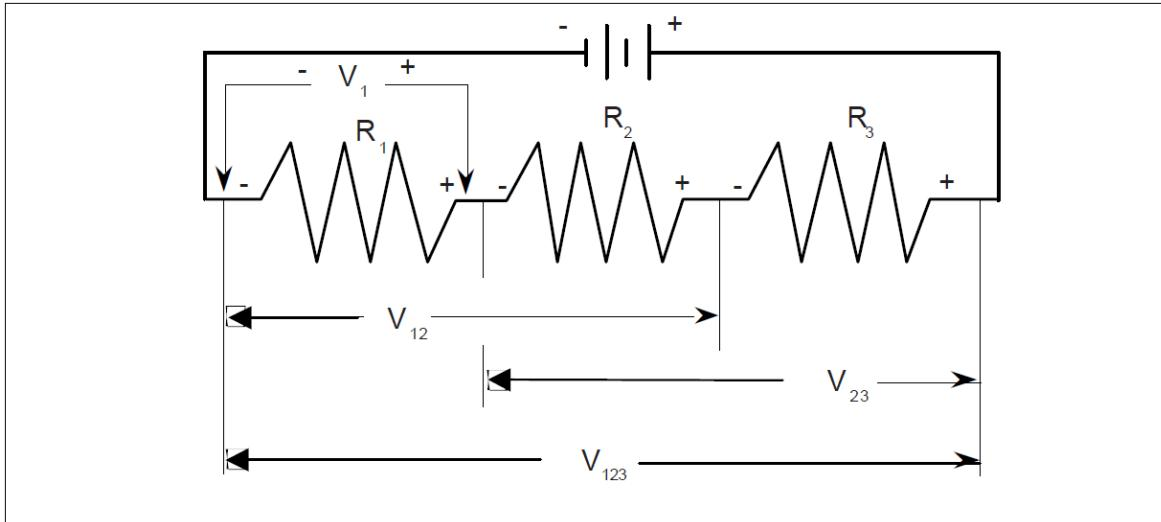

Figure 10: A diagram of the series circuit
1. Connect the three equal resistors that you used in the previous section in the series circuit shown below (see figure 10), using the springs to hold the leads of
5. On the basis of the data you recorded on the table with figure 10, what is the pattern for how voltage gets distributed in a series circuit with equal resistances? Is there any relationship between the size of the resistance and the size of the resulting voltage?